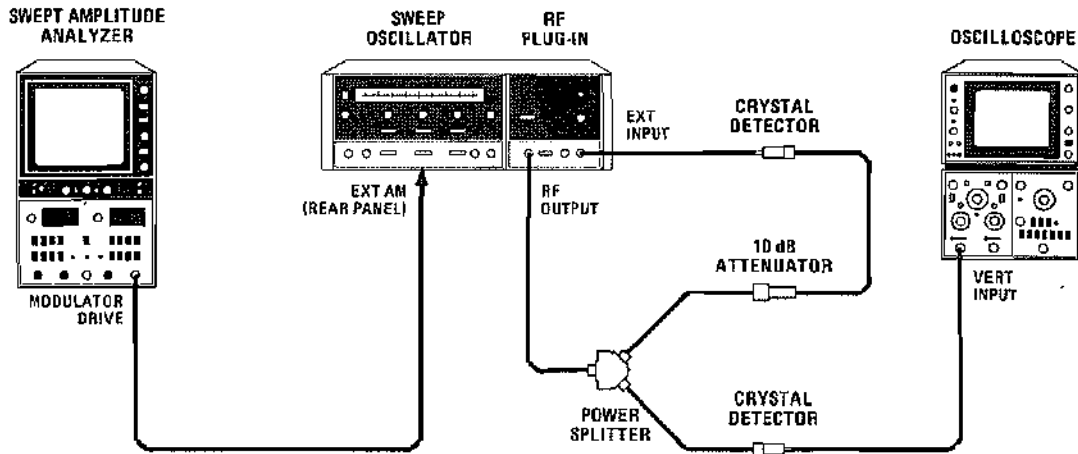

Figure 5-10. Delay Adjustment Test Setup, Standard
- a. Connect equipment as shown in Figure 5-10.